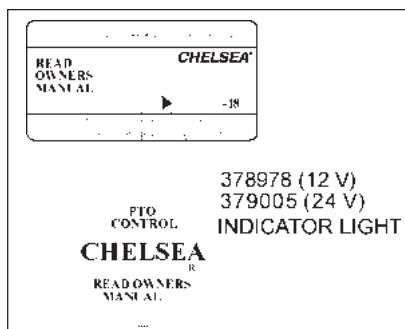

Fig. 25
5. Install the control plate (68-P-18) stick on decal and indicator light on the dash using the hardware supplied in the 328751-1X installation kit (Fig. 25).